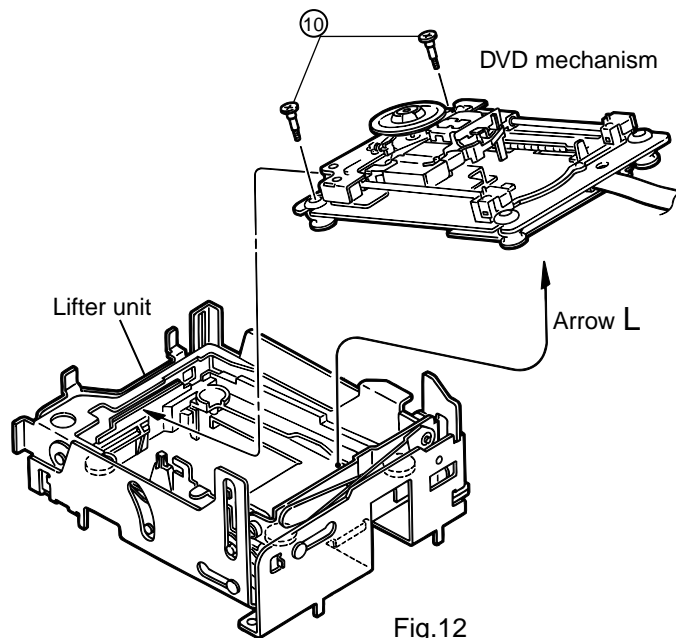

Fig.12
2. By raising the DVD mechanism assembly in the arrow direction "L" , remove the assembly from the lifter unit (See Fig.12).